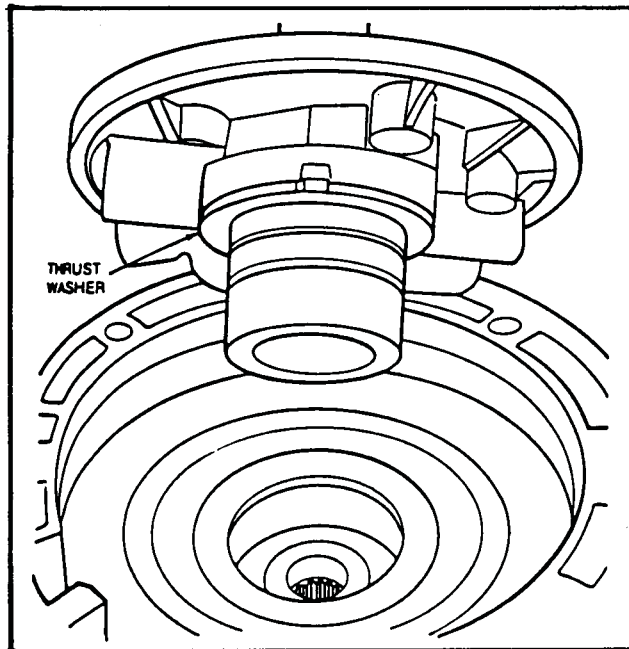

FIG. 47 Pump Installation
10. **Being careful not to damage the oil seals, turn the transmission on the assembly stand so the output shaft points downward.** Install the hydraulic pump with thrust washer No. 1 (Fig. 47).